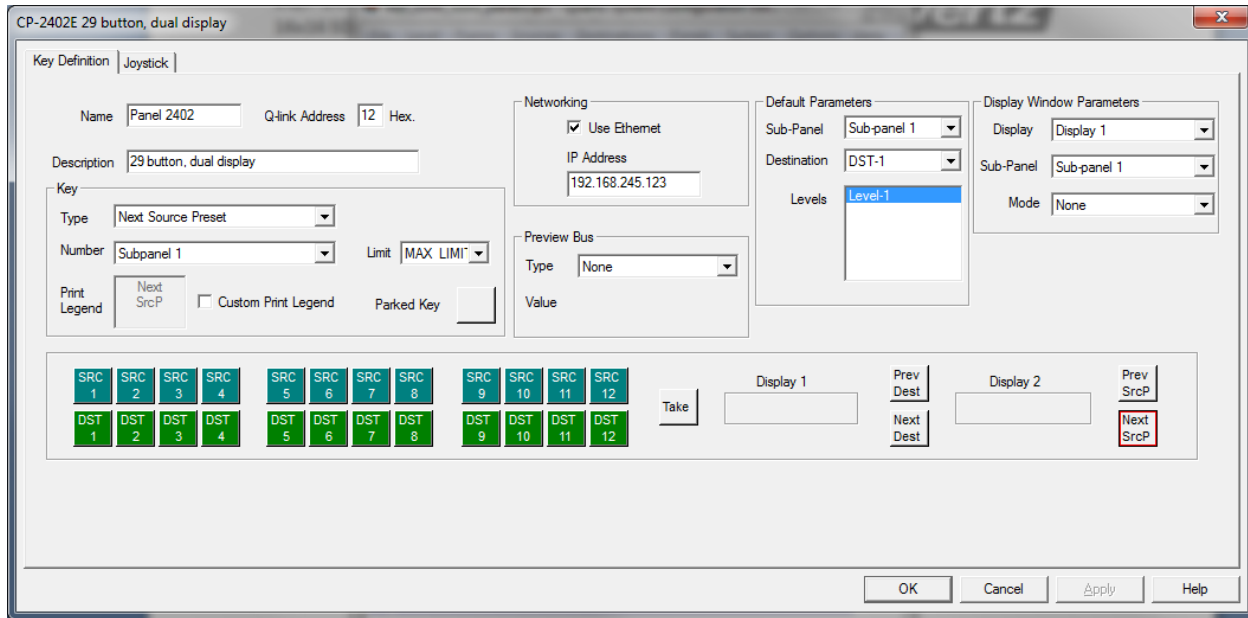

Figure 6-5 : WinSetup Panel Configuration
- 5. Panels:** Enter the panel's dialog and use the **New** button; this will show all Evertz panels listed by part number. Select the part number that matches the part number on the panel's serial number label. Ignore the A/E designation as the connection method for the panel that will be defined in the panel configuration dialog. Once a part number is selected, a new dialog box will appear displaying a graphic of the panel. Figure 6-5 shows the button display for the CP-2402E control panel.